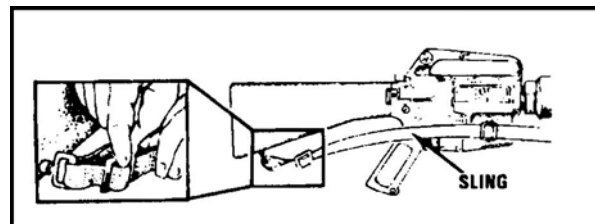

Figure 39. Placing the sling.
- p. Replacing the sling (Figure 39).